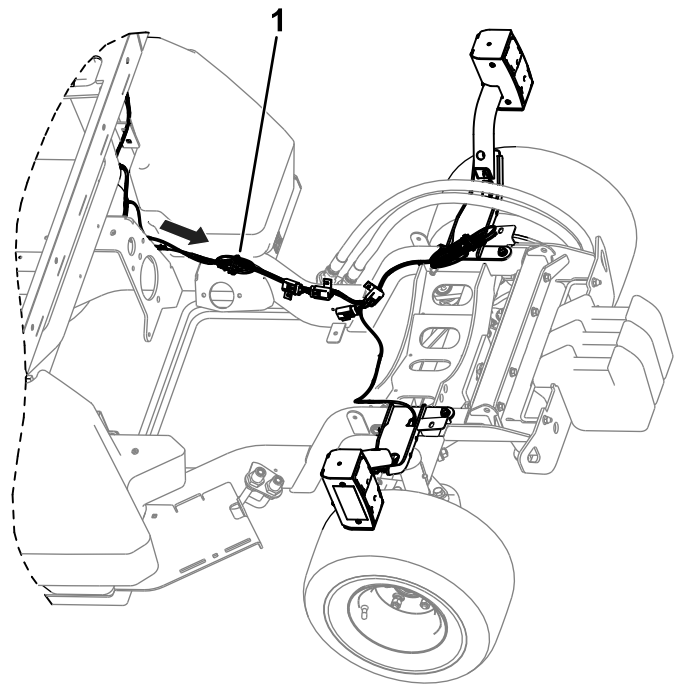

Figure 39
3. Use a cable tie to coil the remaining connectors (J01 and J02) together (Figure 39).